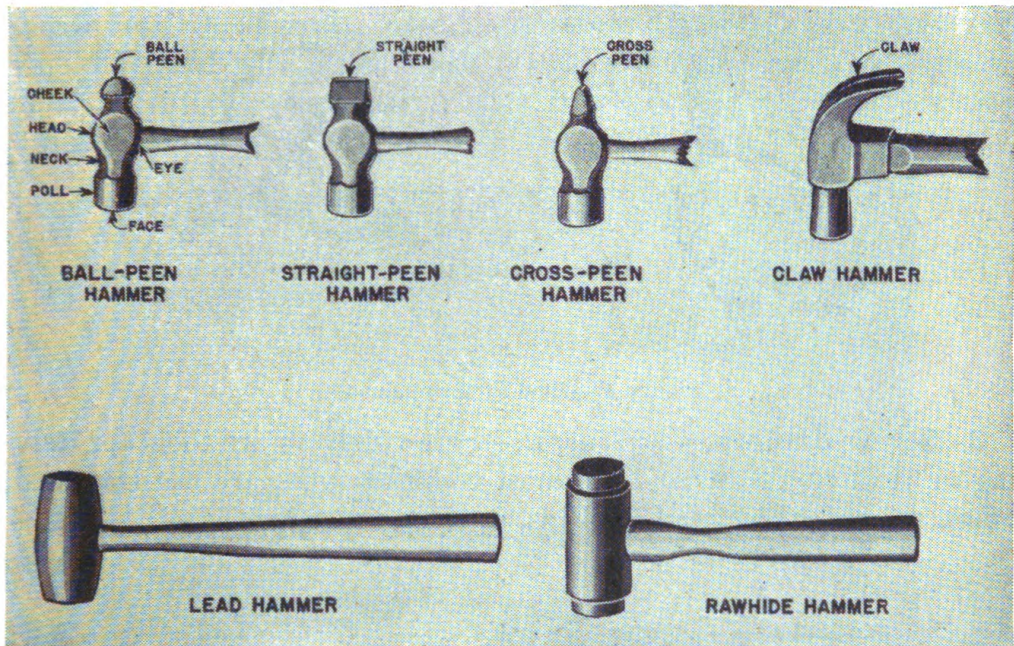

FIGURE 2.—Types of hammers.
(1) *Common hammers.*—Common hammers are made with forged steel heads having eyes (holes) into which wooden handles are inserted and held fast by wedges. They vary in size from 4 ounces to 2½ pounds, and are so shaped and balanced as to enable the operator to hit the mark squarely without difficulty. The handle, usually of hickory, should be shaped to fit the hand comfortably and fit *tightly* into the eye. Figure 2 illustrates the hammers ordinarily used in motor-vehicle maintenance work. The ball-peen hammer is used most frequently by mechanics. The peen of this hammer is used for heading rivets and similar peening or drawing operations; the cross-peen hammer is used for spreading or drawing out metal at right angles to the handle; the straight-peen hammer performs the same operation in line with the handle. The claw hammer is used by carpenters for driving and pulling nails.
Two common types are shown in figure 2. They are used generally for any operation where a steel hammer might mar or injure the work.